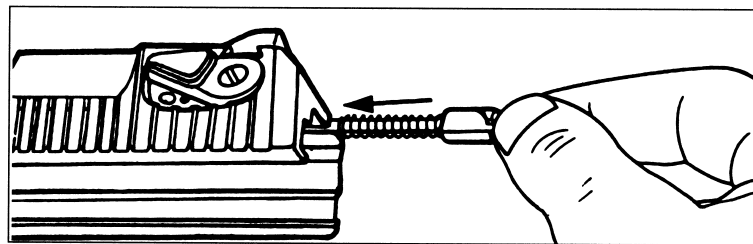

fig. 19
5. Install the firing pin spring and the firing pin, with its "narrow" section facing down (fig. 19).